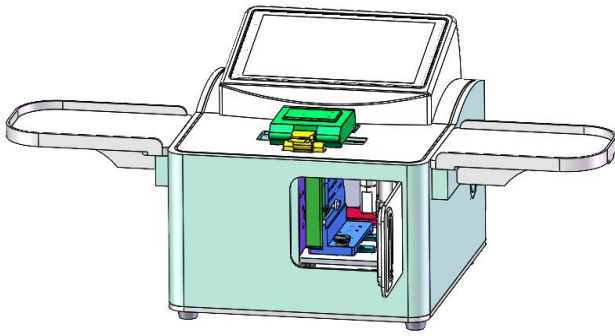
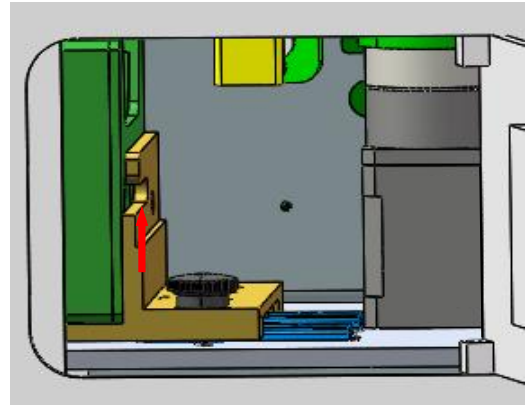
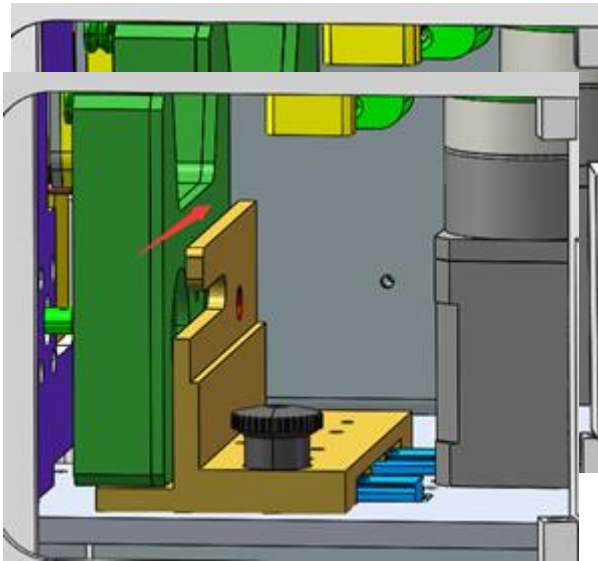

Figure 14-1
Figure 14-2
Figure 14-3
5.2.2 Open the door (Figure 14-1), lift the fastener up (Figure 14-2), move the Cassette to rightward and take it out (Figure 14-3 and Figure 14-4), and click "Next".